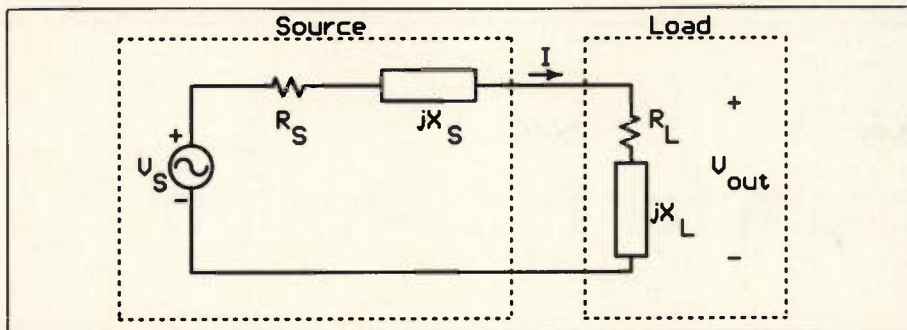

Figure 10. The source and load may be complex impedances (resistance plus reactance).
In the general case, the source impedance may not be purely resistive but may also include a reactive component. Figure 10 shows such a source connected to a load which also includes a reactive component. Maximum power occurs for this circuit when the load is the complex conjugate of the source impedance (1). This means:
So, again, maximum power occurs when the impedance across the voltage source is purely resistive, producing in-phase voltage and current waveforms (Figure 10).